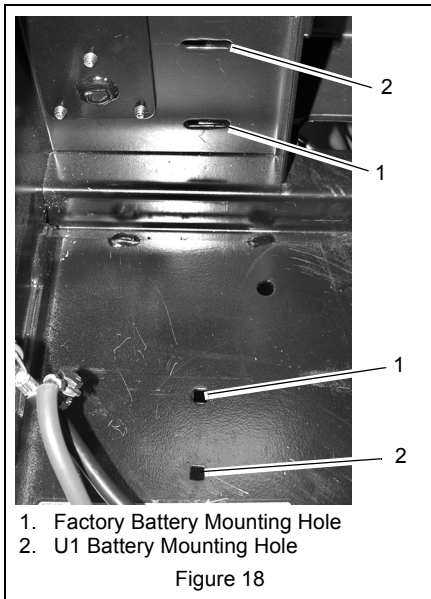

Figure 18
- Place battery hold down bracket on top of the battery. Hook the curved end of the bracket in the upper mounting hole in the wall of the frame (Figure 18).
(Figures 18 and 19)
- Place battery hold down bracket on top of the battery. Attach the curved end of the bracket in the upper mounting hole in the wall of the frame (Figure 18).